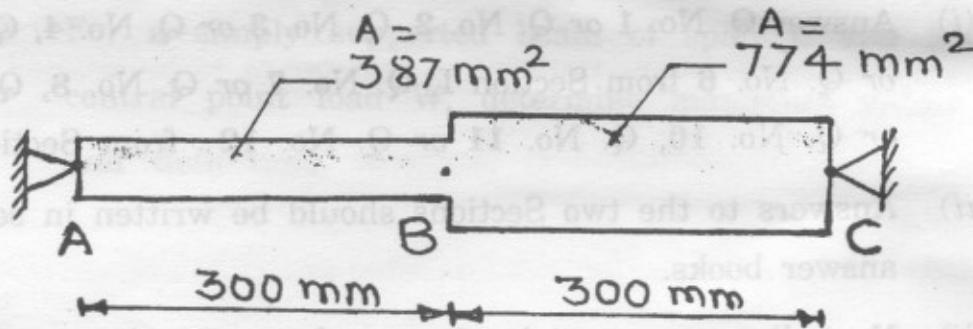

Fig. 1 (b)
- (b) Determine the values of the stress in portion AB and CB of the steel bar shown in Fig. 1 (b), when the temperature of bar is -45°C , knowing that a close fit exists at both the rigid supports when the temperature is $+24^{\circ}\text{C}$.